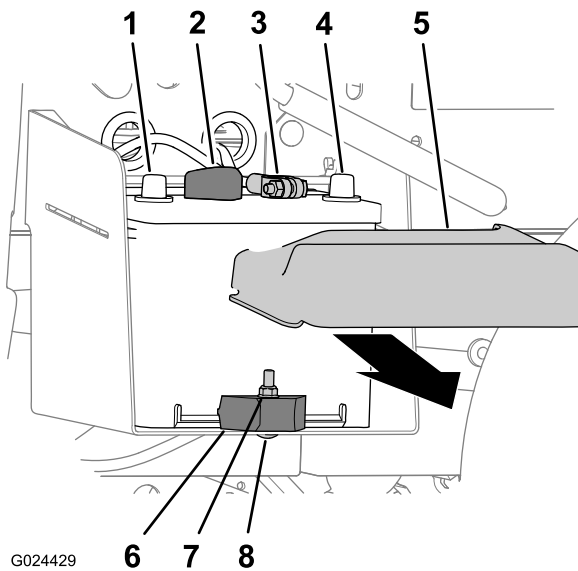

Figure 49
1. Squeeze the sides of the battery cover and remove the cover from the top of the battery (Figure 49).
2. Disconnect the negative-battery cable from the terminal of the battery (Figure 49).
3. Disconnect the positive battery cable from the terminal of the battery (Figure 49).
2. Remove the locknut, carriage bolt, and battery clamp that secures the battery to the battery tray (Figure 49).
3. Remove the battery from the battery tray (Figure 49).
1. Align the battery to the battery tray of the machine (Figure 49).
Note: Ensure that the positive and negative posts of the battery are aligned as shown in Figure 49.
2. Secure the battery to the battery tray with the battery clamp, carriage bolt, and locknut (Figure 49).
1. Connect the positive battery cable to the terminal of the battery (Figure 49).
2. Connect the negative battery cable to the terminal of the battery (Figure 49).
3. Install the battery cover onto the top of the battery (Figure 49).